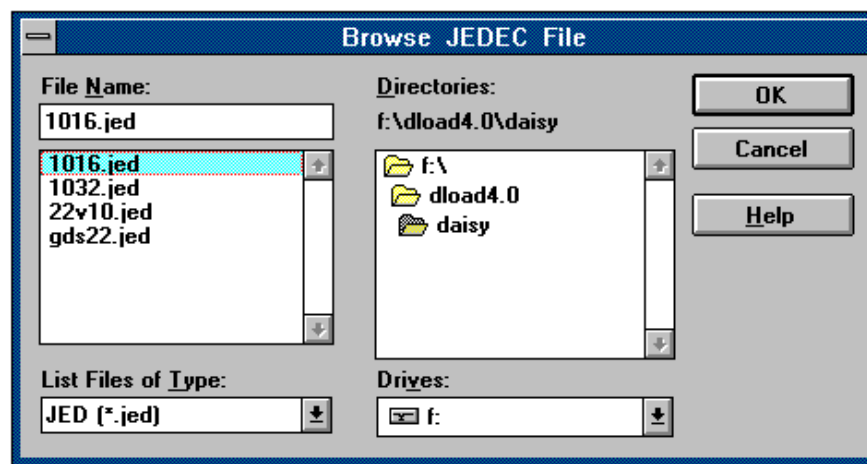

Figure 3-6. Browse JEDEC File Dialog Box
4. Enter the file name or select **Browse** to find a file. If you choose browse, the Browse JEDEC File dialog box appears (Figure 3-6). Use the scroll down arrow keys to scroll through the lists. Make sure your choices are highlighted and choose **OK**. The Browse dialog box closes and the .jed file name that you chose appears in the Configuration Setup dialog box for that device.